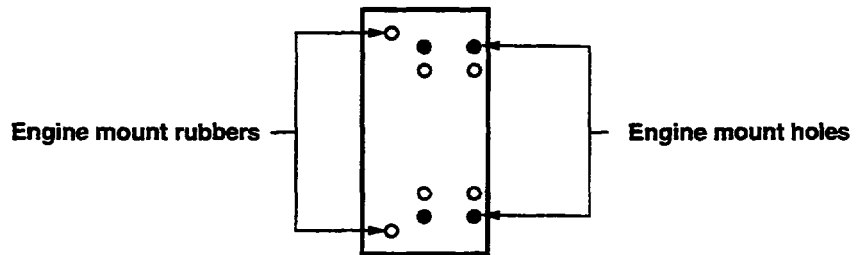

Fig. 10-37
(2) Attach the engine base to the bottom of the engine. (See Fig. 10-37.)